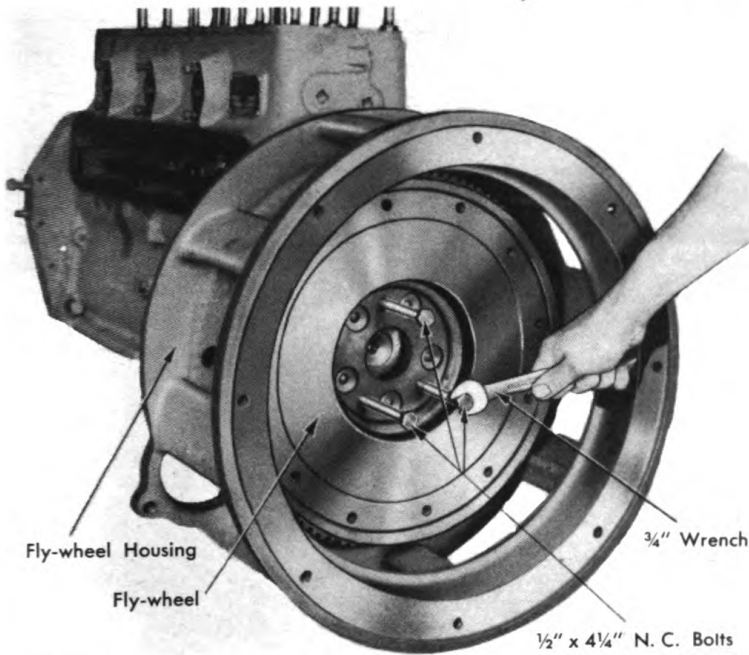

Figure 128. Removing Flywheel.
23. Block up the engine at the back and remove the five flywheel bolt nuts and washers. **NOTE:** These are thin washers, so do not attempt to use them in any other place. Use three 1/2" N.C. capscrews with 1-1/2" of thread about 4" long to push the flywheel off the bolts. Screw these into the three tapped holes in the hub of the flywheel and push the flywheel off as shown in Figure 128. These capscrews can be used as handles to lift the flywheel out of the housing. **NOTE:** In